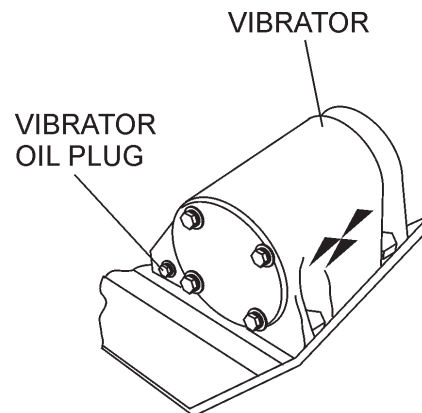

Figure 10. Vibrator Oil Plug
2. Check vibrator oil level by removing the plug (vibrator oil gauge) as shown in Figure 10. The oil level should be up to the oil plug. If oil is required, replace using only SAE 10W-30 motor oil.